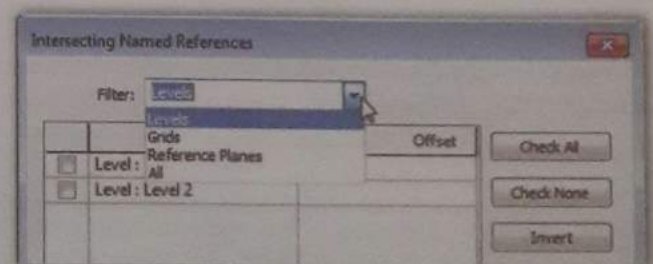

Figure 101: Dividing Parts by Reference
4. In the Intersecting Named References dialog, use the Filter drop-down control as needed to view the levels, grids, and reference planes that can be used to divide the selected parts (Figure 101).